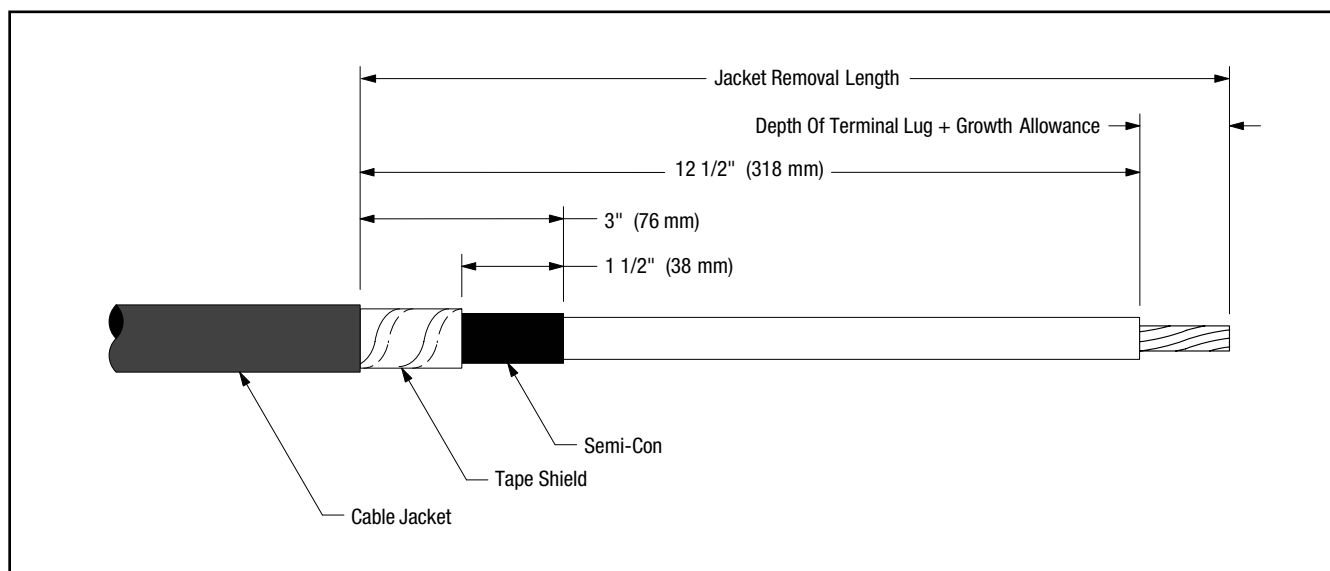

Figure 1
- 1.2 Prepare cable using dimensions shown in *Figure 1*. **BE SURE TO ALLOW FOR DEPTH OF TERMINAL LUG.** If necessary to prevent tape shield from unrolling, hold down edge with a single wrap of 3M™ EMI Copper Foil Shielding Tape 1181.